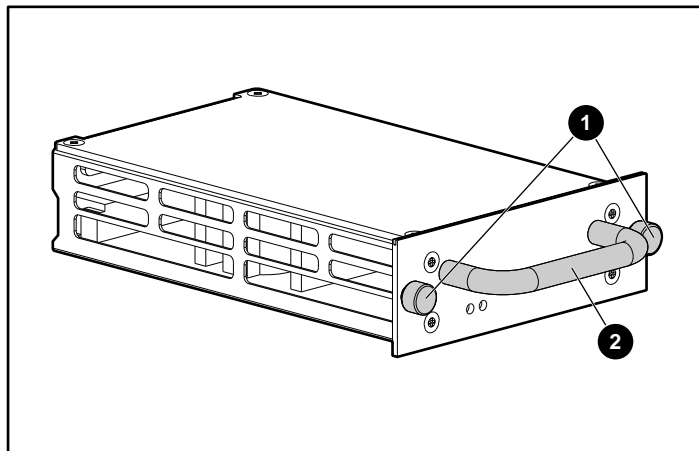
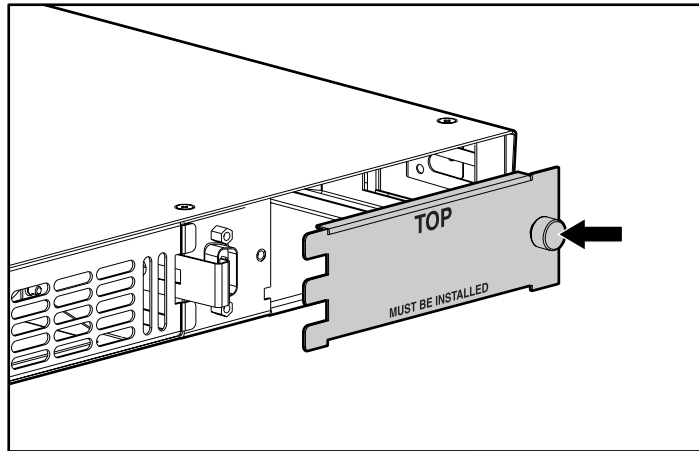

Figure 112: Thumbscrews and handle of a power module
Figure 113: Thumbscrew of a power bay cover
1. Loosen the thumbscrews ❶ in a counterclockwise rotation on the power module or the power bay cover as shown in Figure 112 and Figure 113.
2. To remove a power module, hold the handle ❷ shown in Figure 112 and pull out the module until it has completely cleared the power bay.
To remove a power bay cover, pull out slightly on the side of the cover with the thumbscrew, slide the cover slightly to the right, and then carefully remove the cover (see Figure 113).
2. Remove the new power module from its shipping container and remove all packing material from around the module (see Figure 112).
3. To install a power module, hold the handle ② shown in Figure 112, align the bottom plate of the module beneath the guides of the bay opening, and slide the module into the power bay until the outer plate of the module is flush against the front of the router.
To install a power bay cover, carefully slide the cover so that it clips onto the left side of the power bay. Verify the orientation of the warning message as seen in Figure 113.